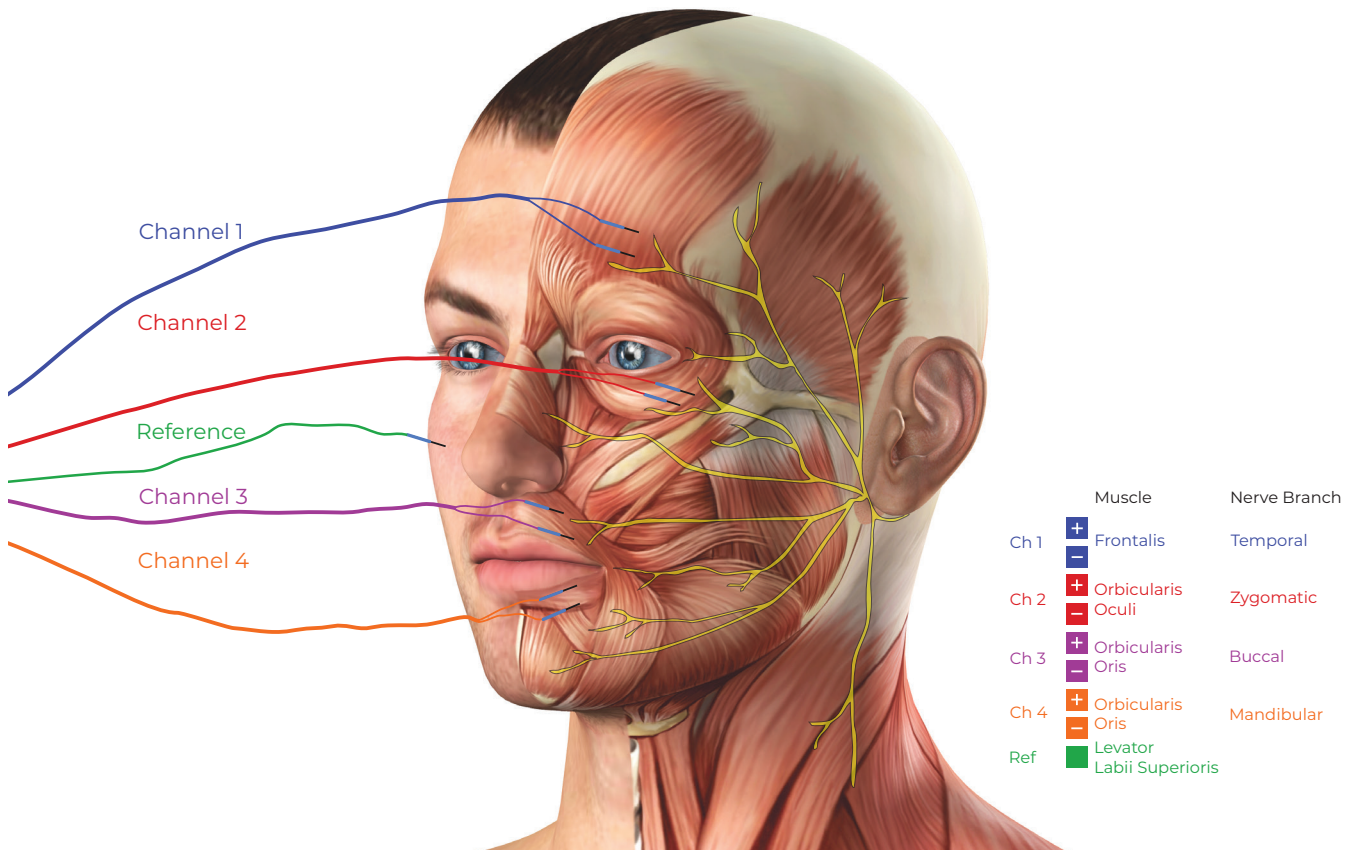

Figure 9.1: Suggested electrode placement for monitoring of the facial nerve (VII).
2. Insert each pair of Subdermal Needle Electrodes into the appropriate muscles indicated in Figure 9.1 (page 17), with the wires leading away from the surgical site. Ensure that the needles of each electrode are inserted adequately into the muscle and not simply under the skin.